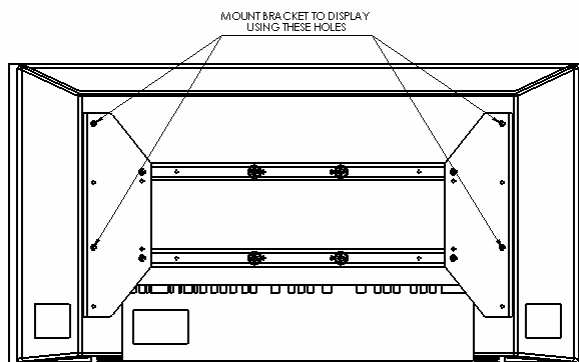
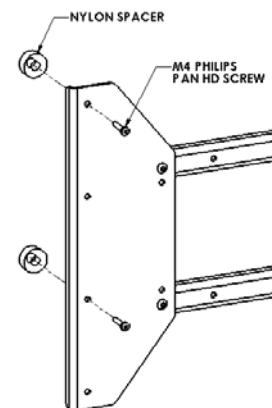

Figure 6
Figure 7
3. Place Nylon spacers on mounting holes, aligning hole pattern on side brackets with pattern on back of display (see Figure 6 and Figure 7).